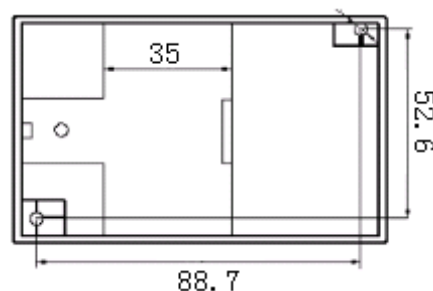

Figure 3, SK outline installation dimensions
- ① Fix the transducer on the side of the card slot and hook on the mounting rail;
- ② Pull the spring pin down;
- ③ Clip the transducer mount on the mounting rail;
④ Release the spring pin and clip the transmitter on the mounting rail.
① 3mm diameter hole in the fixed plate according to the screw hole position shown in Fig. 3;
② Use the screw $\Phi 3$ to insert into hole and secure it.